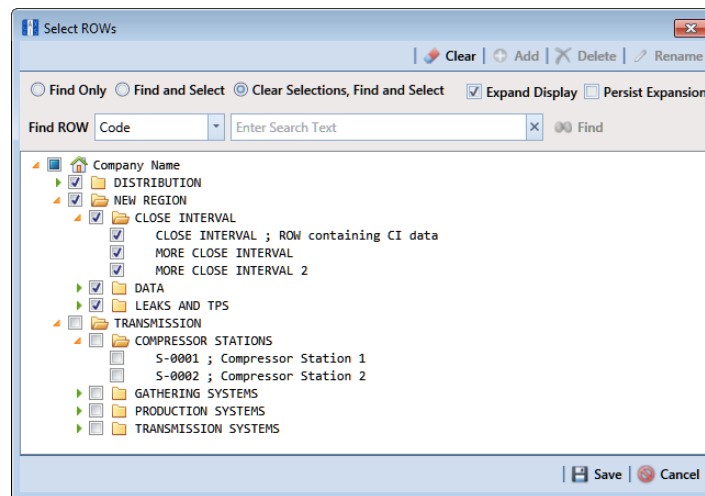

Figure 16-53. Select ROWs
- 1 Select one or more pipeline segments in the *Select ROWs* window (Figure 16-53). Click  **Save** to close the window.